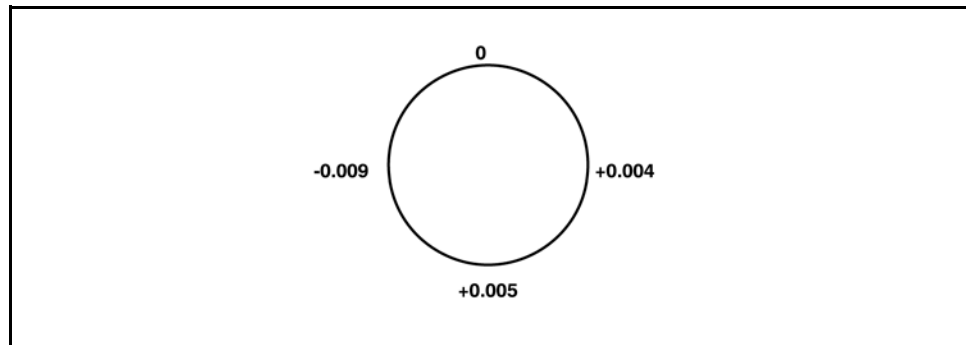

Figure 9-9 Total Indicator Reading (TIR)
Readings taken at the 12:00 and 6:00 positions determine vertical angular alignment and readings in the 3:00 and 9:00 positions determine horizontal angular alignment. A total indicator reading (TIR) is the absolute difference between two readings on opposite sides of the shaft (see Figure 9-9). The horizontal TIR is (-0.009") and (+0.004") which is a difference of (0.013"). Vertical TIR is (0) and (+0.005") which is a difference of 0.127 mm (0.005").